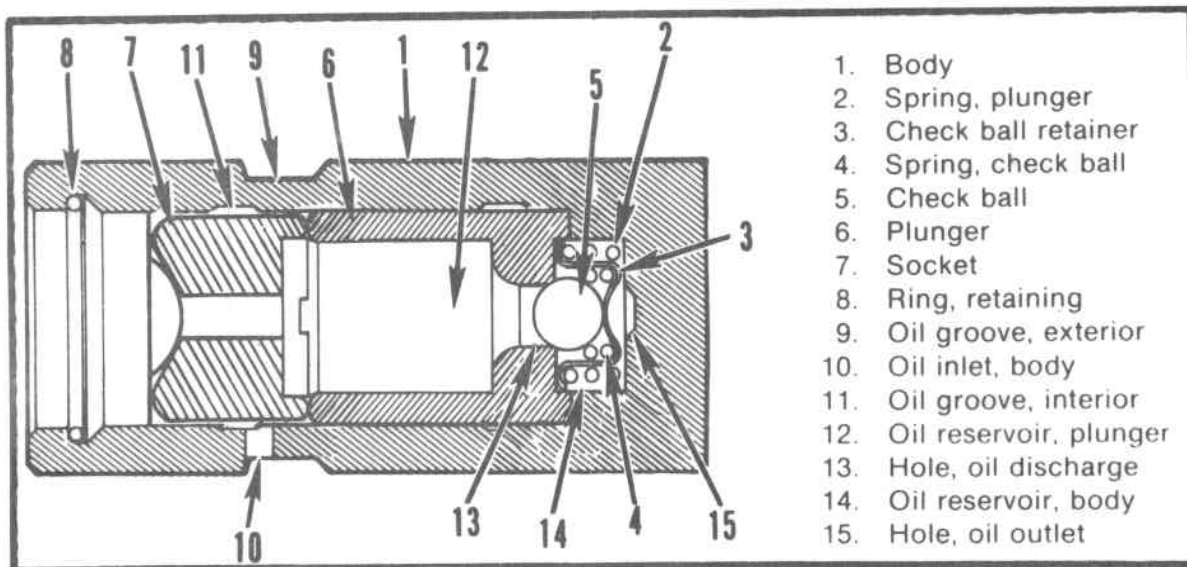

FIGURE 72-00-11
The barrel type hydraulic lifter (See Figure 72-00-11) consists of a steel body (1), an expanding spring (2), and a check valve assembly (3, 4 and 5), a plunger (6), a socket (7) for pushrod end, and a retaining ring (8). A groove (9), around outside of body picks up oil from crankcase supply hole. From the exterior groove oil is directed to interior body groove (11) through hole (1) and from the interior groove through the hole to the reservoir (12). Oil is withheld from reservoir (15) by check valve ball (5) which is supported by a spring (4) and retainer (3). The check valve is opened by outward motion of the plunger under pressure of the expanding spring whenever a clearance occurs in the valve train. Thus the body reservoir is kept full of oil which transmits lifting force from the body of plunger. The plunger and socket are selectively fitted to the body to permit a calibrated leakage so the lifter will readjust its effective length after each cycle, while cylinder valve is closed to return "lash" in valve train to zero.